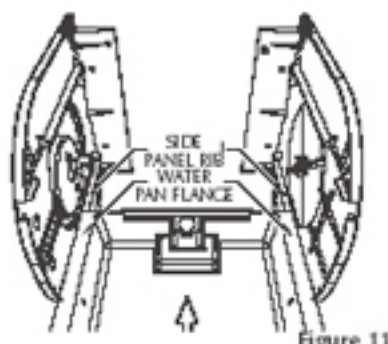

Figure 11
11. Position the water pan between the sides so that the flange on either side of the water pan is resting on ribs on the inside of either side panel. (Fig. 11)